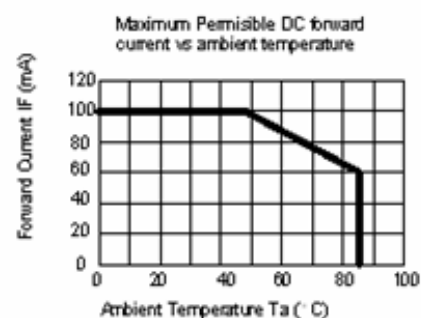

FIG.6 DC FORWARD CURRENT VS. AMBIENT TEMPERATURE DERATED (Based on TJMAX = 110°C)
1. Derate as shown in Figure 6.